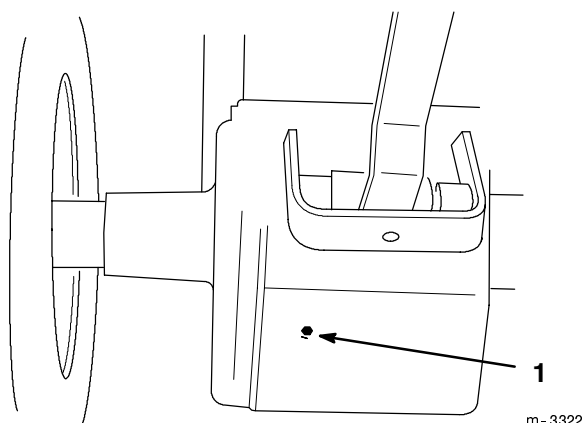

Figure 45
5. Open the drain by removing the plug (Fig. 45).